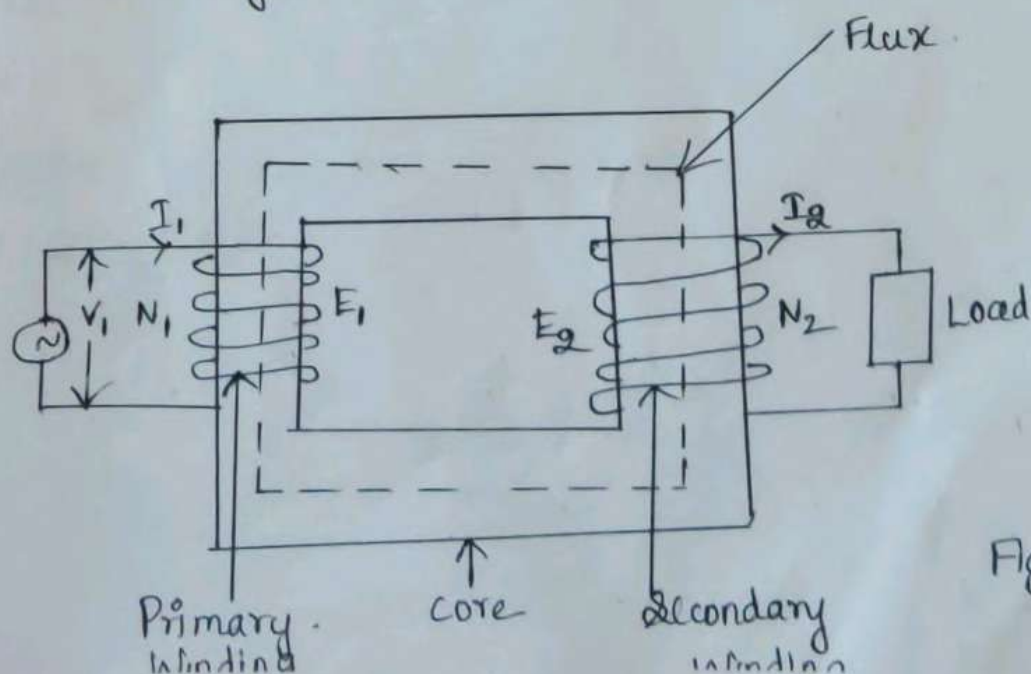

Figure 1.1
- * From the Figure 1.1, Transformer consists of two windings insulated from each other and wound on a common core made up of magnetic material.